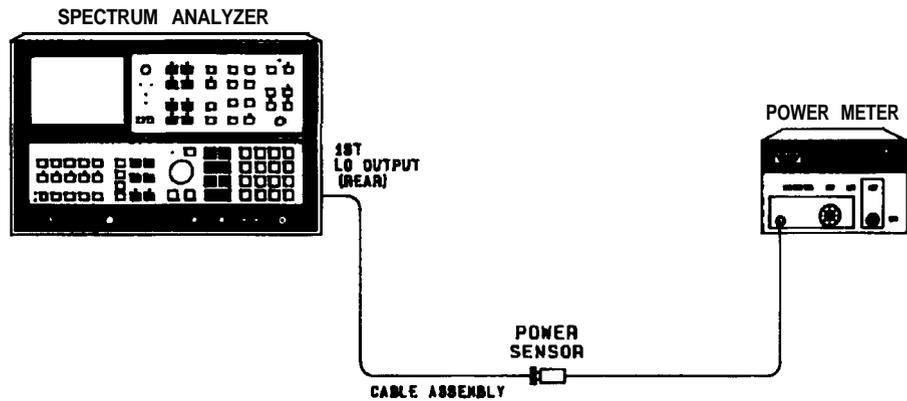

Figure 2-35. 1st LO Output Amplitude Test Setup
3. Calibrate power meter and sensor. Connect equipment as shown in Figure 2-35.